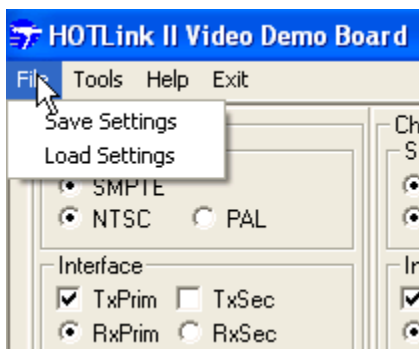

Figure E-21. GUI–Save/Load Settings
- To save a current setting, click on File -> Save Settings, the “Save As” dialog box will prompt the user to enter a valid file name and the setting for the GUI is saved as a configuration file with an “.ini” file extension. Click on “Save” to save the file. See *Figure E-21*.